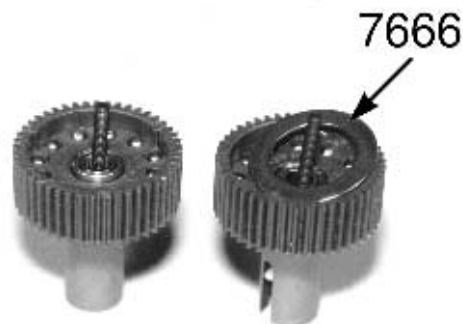

Fig. 53
□ **Fig. 53** With the Allen wrench still in the head of the diff bolt, turn the hub assembly upright so that the wrench is on the bottom. Make sure that the #7666 diff drive ring is still on and centered. Now pick up the #7664 diff drive gear with the balls and bearing installed and slip it over the #6575 diff thrust bolt onto the drive ring and hub. We want to center it on the diff drive ring on the right diff hub.
Now go back to bag A and take out the second #7666 diff drive ring. We are going to install this second drive ring on the top side of the diff gear over the diff balls and center it as best as you can. **Note:** In the photo for fig. 53 we have removed the Allen wrench so that you can see the diff gear before the #7666 drive ring is installed and as it is being installed. Remember, if you are doing the racers setup the rounded side will be up. **WARNING! If you remove the gear at any time before you completely assemble the diff halves always double check to make sure you do not have both drive rings on the same side. This can be easy to do because one drive ring may stick to the diff gear and the other could be stuck to the diff outdrive hub.**